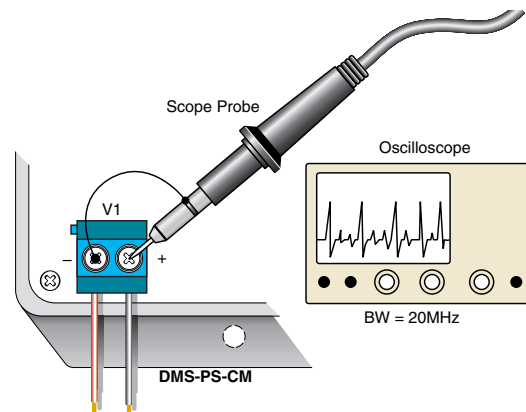

**Figure 5. Bipolar Connections**
**2. Bipolar Operation (See Figure 5):** DMS-PS-CM power supplies' fully isolated outputs allow for the generation of bipolar (positive and negative) supply voltages. Bipolar outputs can be used to power dual-supply operational amplifiers, as well as any other type of instrumentation that requires bipolar supply voltages. However, please keep in mind that when connecting and operating any two outputs in this fashion, each output retains its maximum current rating.